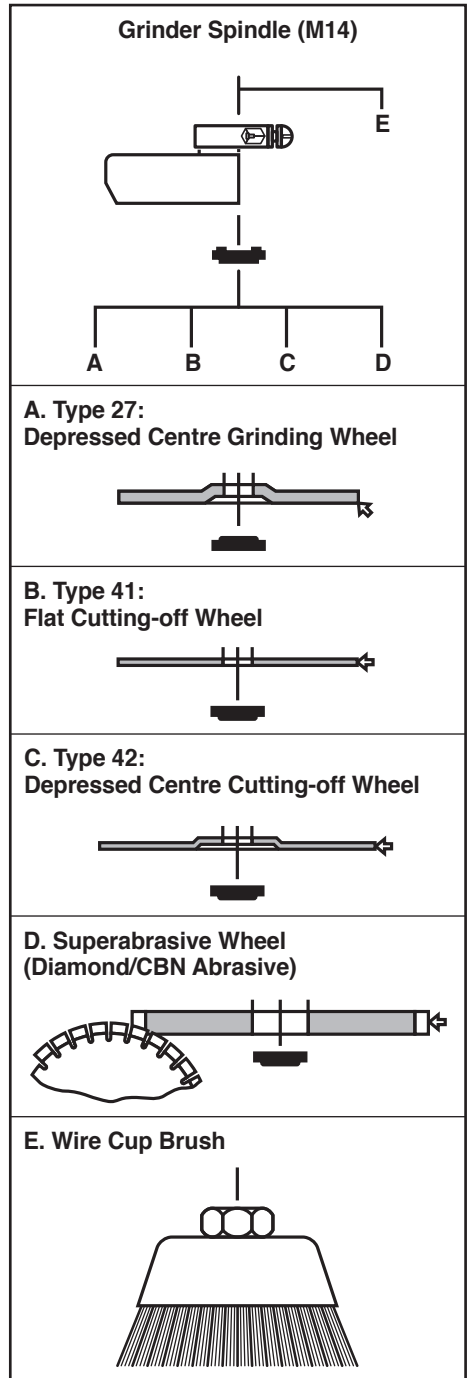

FIG.3
8.3 FITTING/REPLACING ACCESSORIES (sold separately) – FIGS. 3 – 5
B, C, D (FIG.3):
- Press and hold the spindle lock button (3).
- Loosen the locking flange (4) anti-clockwise using the pin spanner (7) supplied.
- When fitting the appropriate accessory please refer to (FIG.3, on page 14) for specific details on the locking flange correct orientation as applicable.
- Securely tighten the locking flange clockwise using the pin spanner while holding down the spindle lock (3).